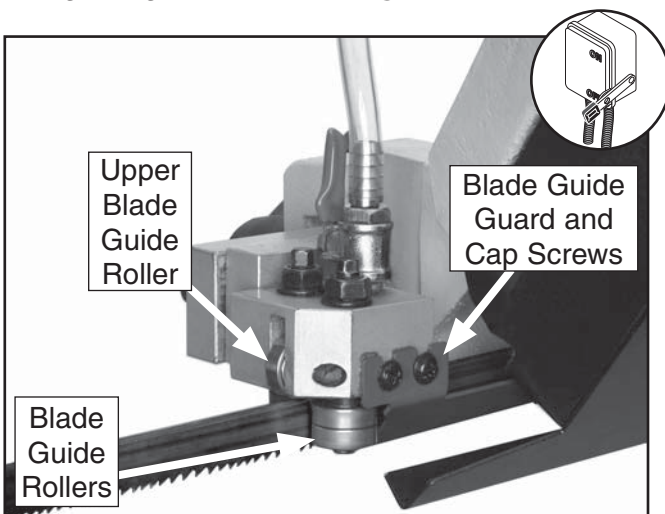

Figure 39. Upper blade guide components.
4. Loosen the two cap screws and the blade guide guard shown in **Figure 39**.